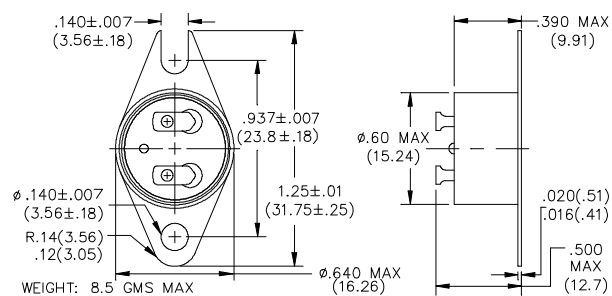

Figure 7:
- 707 = Tube Mount Adapter (See Figure 7)